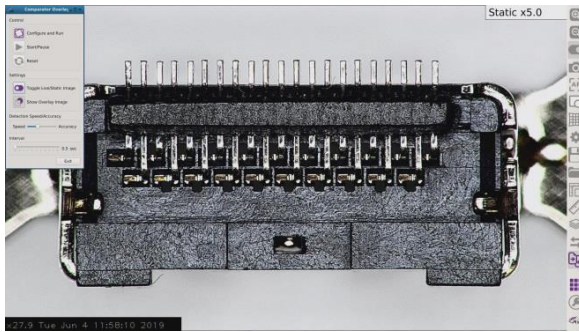
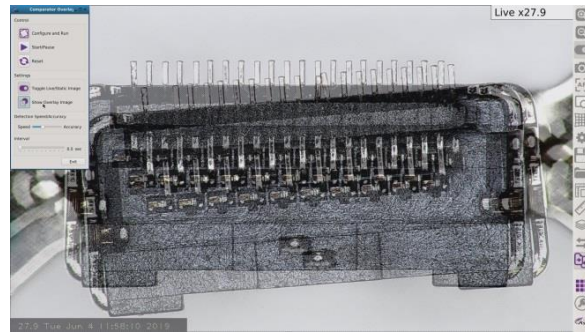

Fig. 42a Golden Sample
Fig. 42b Golden Sample & Test Sample Overlay
- 5.** Open the Comparator App and select and open the ‘Golden Sample Part’ image (Fig. 42a). An Overlay image (Fig 42b) allows the alignment of both the ‘Golden Sample’ and the next sample to be compared. Exact alignment is not required as the app can adjust for any misalignment up to 30° rotation or X-Y movement around the FOV.